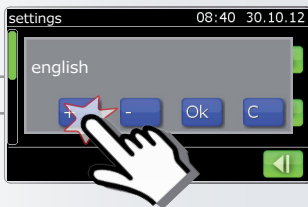

Fig. 17
2. Now select the language pressing the buttons + / - (Fig. 17).